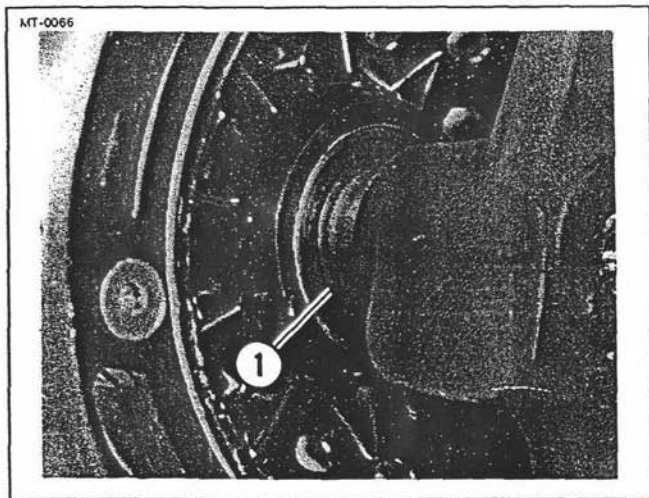

Figure 5-39. Axle Spacer
See Figure 5-39. When axle is removed, axle spacer (1) on left side of front hub will fall free of hub. Retrieve spacer for use during front wheel installation.
4. See Figure 5-39. Position axle spacer (1) between left side of wheel hub and left slider, then drive spindle through spacer and slider, tapping spindle with a *soft-headed mallet*.